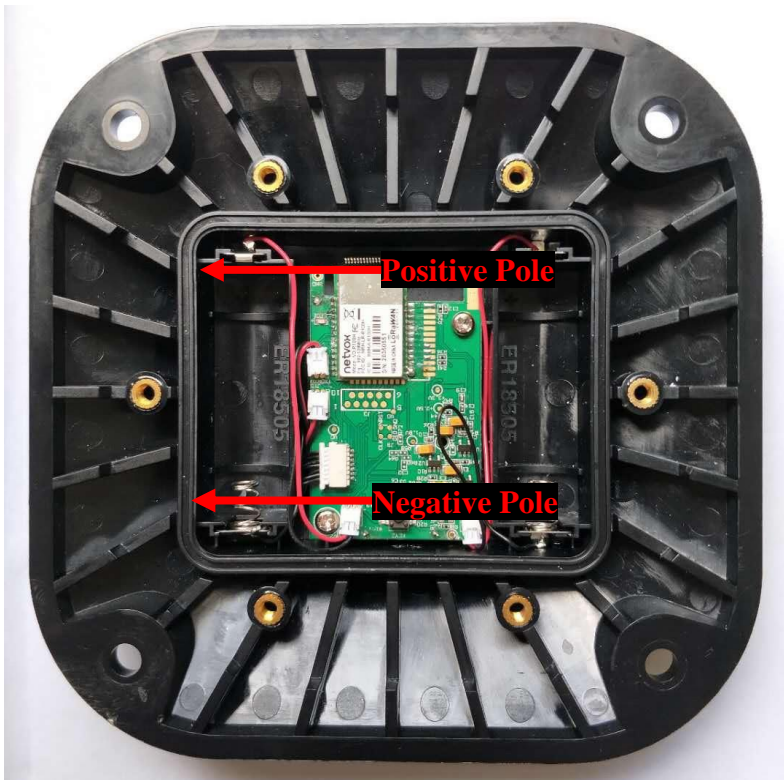

Figure 3
**Step 3:** Put the battery into the battery slot of the device. The side of the battery slot marked with  is the positive pole, and the side marked with  is the negative pole (with a spring). The side with  of the battery is the positive electrode, and the side with  is the negative electrode as Figure 3. Please note that the positive and negative poles of the battery should not be reversed.